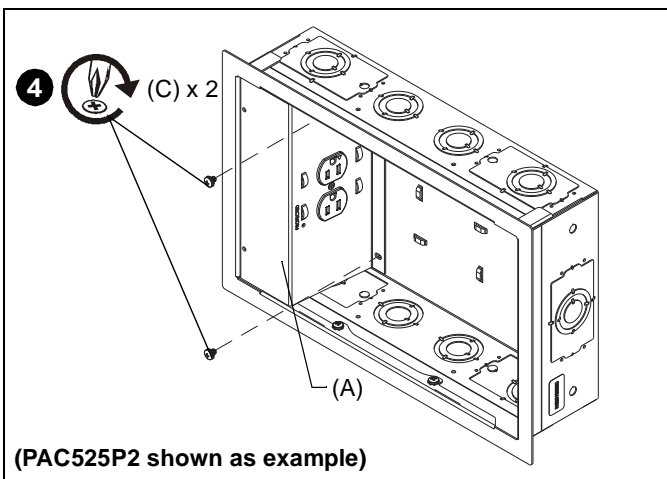

Figure 4
4. Secure power kit assembly to in-wall box using two 10-24 x 1/4" Phillips SEMS screws (C). (See Figure 4)